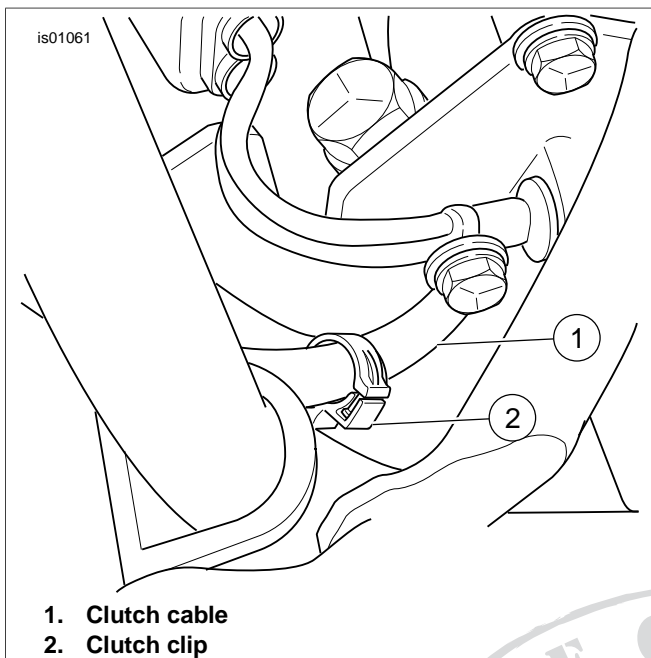

Figure 5. Bottom Clutch Cable Clip
- All Dyna models:** See Figure 5. Route the clutch cable (1) from the clutch release cover, under the frame and across to the left side of the vehicle. Insert the cable into the clip (2) at the bottom left side of the frame. Continue routing the cable up in front of the frame down-tube.
1. **All Dyna models:** See Figure 5. Route the clutch cable (1) from the clutch release cover, under the frame and across to the left side of the vehicle. Insert the cable into the clip (2) at the bottom left side of the frame.